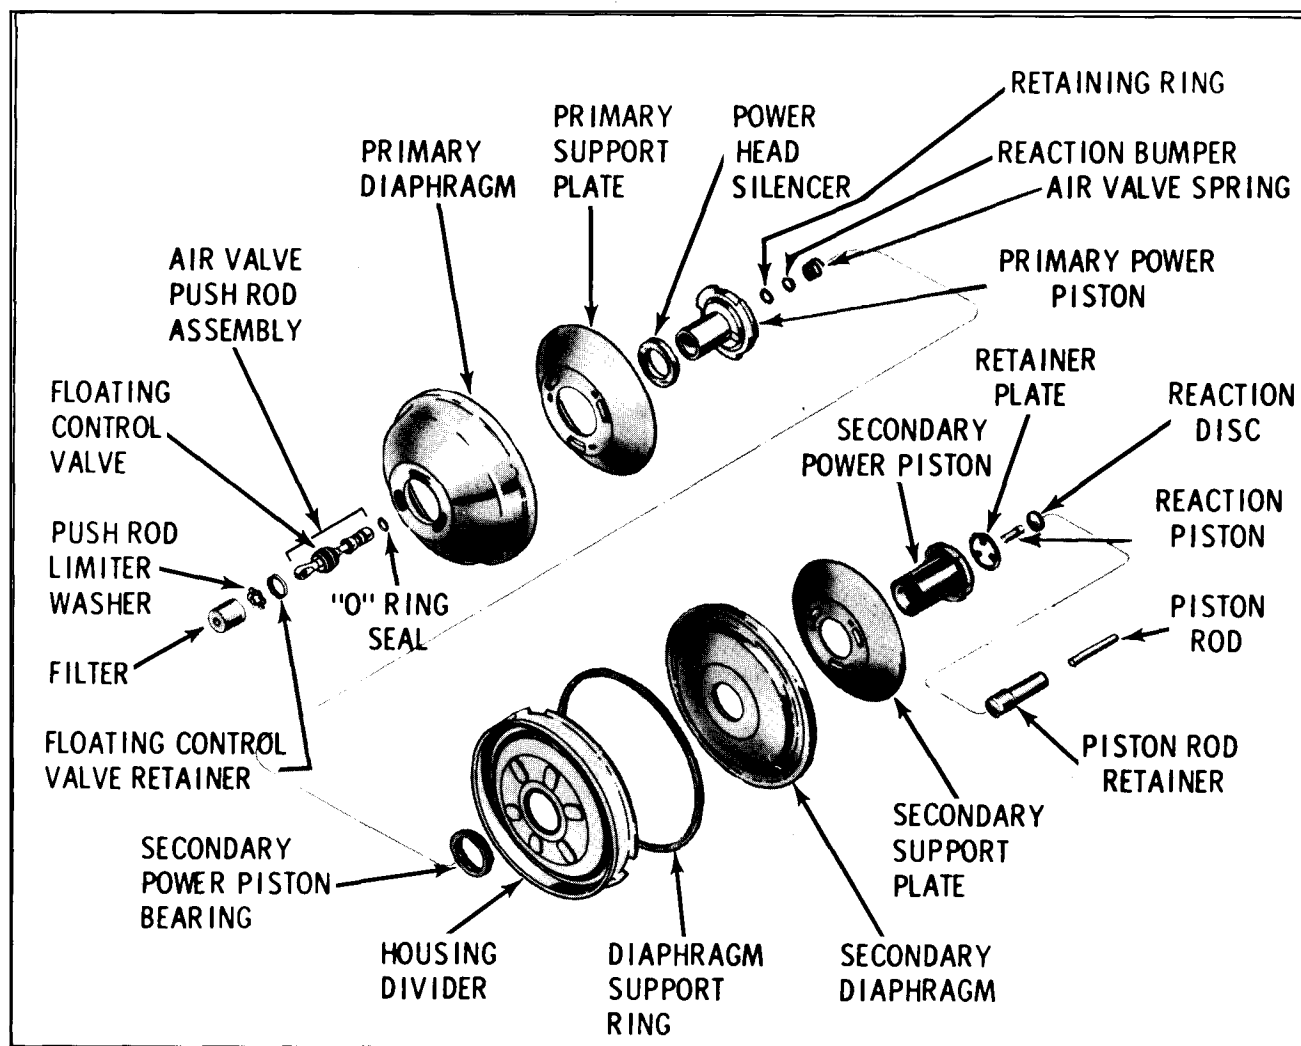

Figure 37—Exploded View of Power Piston.
10. Lift the bead on the outside diameter of the secondary diaphragm and remove the support ring. (figure 37)
1. Lubricate the "O" ring seal, Figure 37 and place on the air valve.